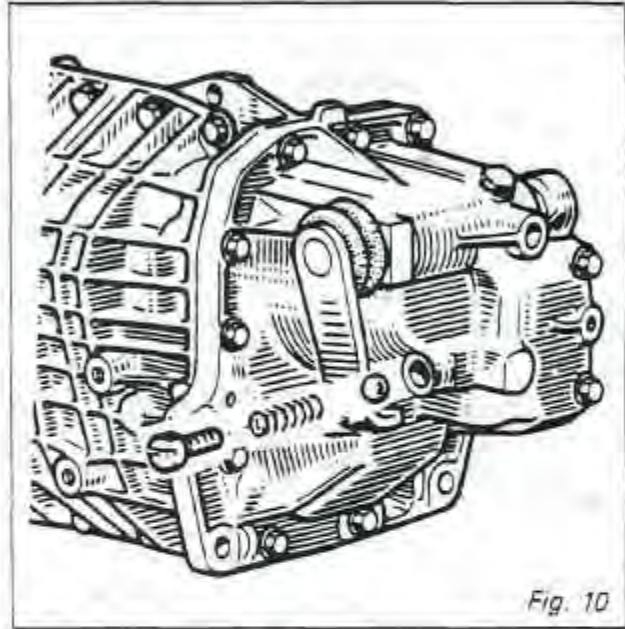

Fig. 10
4. Remove the end cover attaching bolts (11) and remove end cover. (Fig. 10).